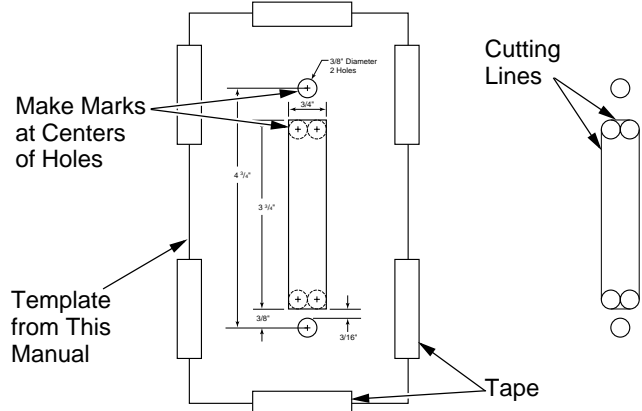

Figure 10 - Using Template for Wall Switch Assembly Installation
10. Using a straight edge and pencil, connect the outer edges of the 4 holes for the rectangle (see Figure 10). This will give you cutting lines for the rectangle you will cut in the wall.
10. Using a straight edge and pencil, connect the outer edges of the 4 holes for the rectangle (see Figure 10, page 10). This will give you cutting lines for the rectangle you will cut in the mantel wall.